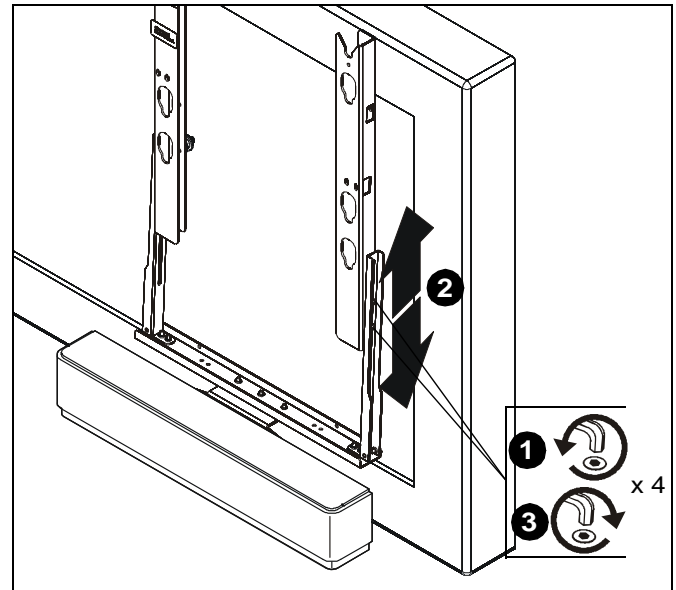

Figure 8
1. Loosen two button head cap screws securing speaker mounting bracket to support plate using 1/8" hex wrench (F). (See Figure 8)
3. Tighten two button head cap screws securing speaker mounting bracket to support plate using 1/8" hex wrench (F). (See Figure 8)